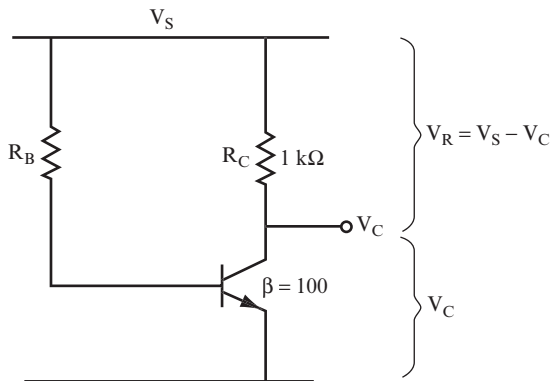

FIGURE 8.1
1 In Chapter 3 you learned how to turn transistors ON and OFF. You also learned how to calculate the value of resistors in amplifier circuits to set the collector DC voltage to half the power supply voltage. To review this concept, examine the circuit shown in Figure 8.1.
Use the circuit shown in Figure 8.1 and the formulas given in problem 1 to answer the following questions.
3 In problem 2, you found that changing the value of R_B in the circuit shown in Figure 8.1 changes the value of I_B .
For the circuit shown in Figure 8.1, calculate the following parameters when $R_B = 168 \text{ k}\Omega$ and $V_S = 10 \text{ volts}$:
- 4** Use the circuit shown in Figure 8.1 to answer the following questions when $V_S = 10 \text{ volts}$.
Which values of I_C and V_C would result in an undistorted output in the circuit shown in Figure 8.1?